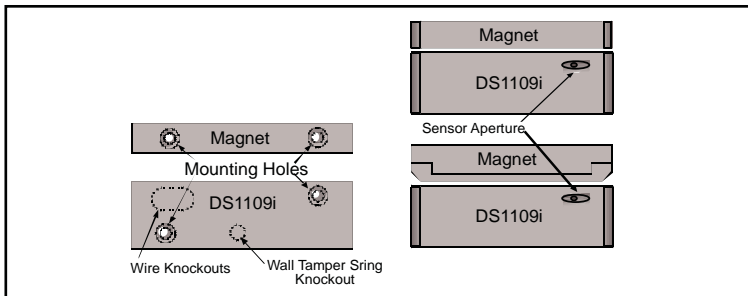

Figure 3.6: Mounting the Detector
- Mount the detector and the Contact Magnet within 1 in (2.5 cm) of each other. The Contact Magnet must be mounted facing the side of the detector with the Sensor Aperture. See Figure 3.6.